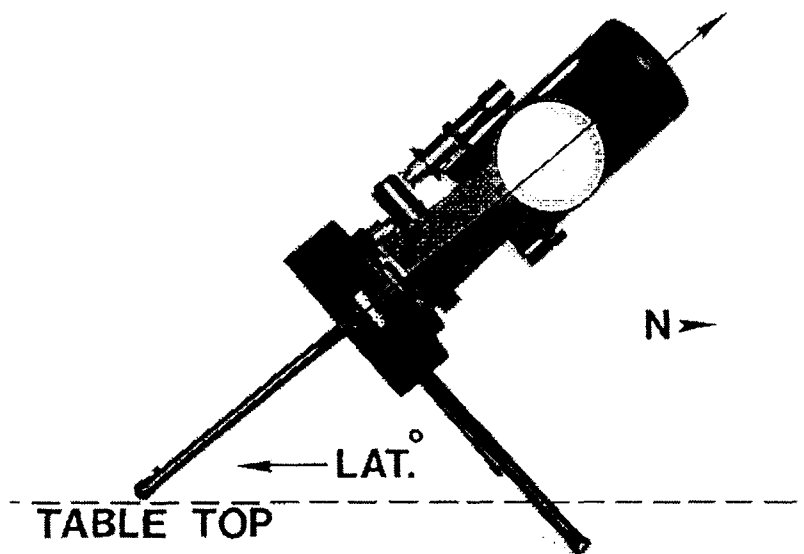

Figure 2: Lining Up With The Pole
2. The polar axis of the telescope is an imaginary line running through the adjustable tripod leg, up through the center of the drive base, and up between and parallel to the two fork arms. The long arrow in Fig. 2 indicates the polar axis. (It is around this axis that the telescope turns in Right Ascension). In Fig. 2, the telescope is oriented so that the main optical tube is also aligned with the polar axis. With the telescope
position as in Fig. 2 (careful eye alignment to make the main tube parallel to the fork arms is sufficient), perform these two operations:
In Fig. 2, note that the telescope is pointing North and the adjustable tripod leg has been set to make the correct latitude angle with the horizontal as described in steps (a) and (b). The adjustable leg is locked to the correct length by tightening the small thumbscrew located at the lower end of the leg.
If the polar alignment procedure has been properly performed, then the North Star (Polaris) will be visible in the field of view of the viewfinder, with the telescope again oriented as shown in Fig. 2. In summary, the polar axis is indicated by the long arrow lined up with the adjustable tripod leg. This axis should (a) point North; (b) make an angle with the tabletop (horizontal) equal to your latitude. To accomplish (b), lengthen or shorten the adjustable tripod leg